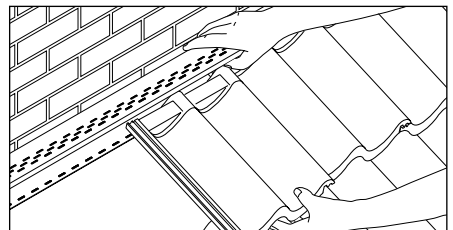

Fig. 3 - Insertion of profiled tiles into batten section
- 5 Roof is tiled in normal way and top course tiles/slates with their respective fillers fitted into batten section (Fig. 3).
- 1 Complete main roof tiling/slating in the normal manner Insert tile with filler unit into batten section by lifting top flange slightly until nibs engage over upstand and tile is held securely. (The ridge filler unit for Plain/Modern has raised lugs which fit beneath circular beads on batten sections) (Fig. 3).